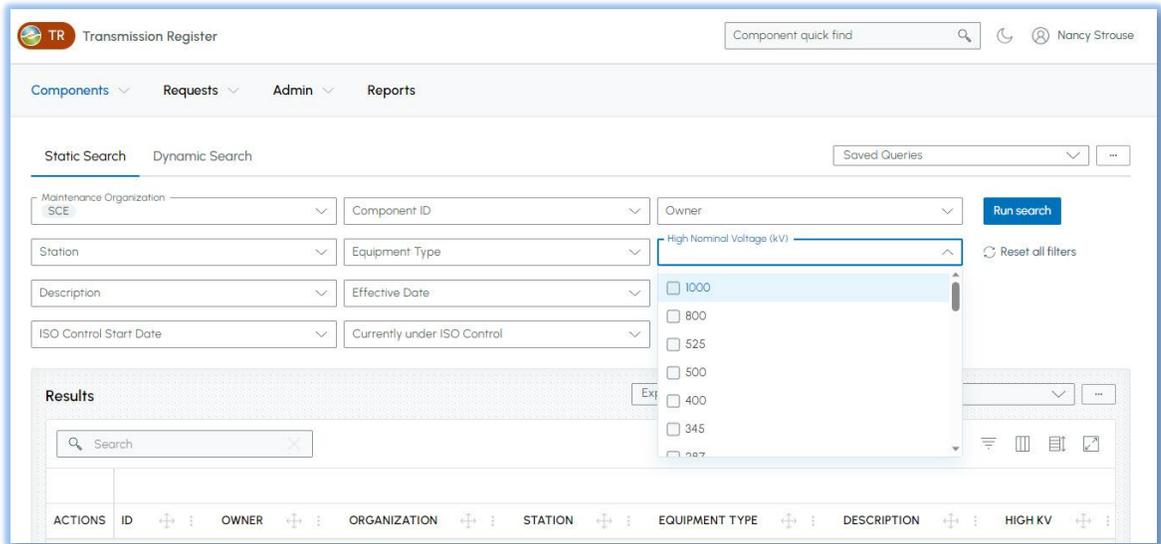

Figure 6 Static Search - High Nominal Voltages
- 1) Select the Maintenance Organization from the right column drop-down menu shown in Figure 5 and select Equal to parameter in the left-hand column, shown in Figure 6.